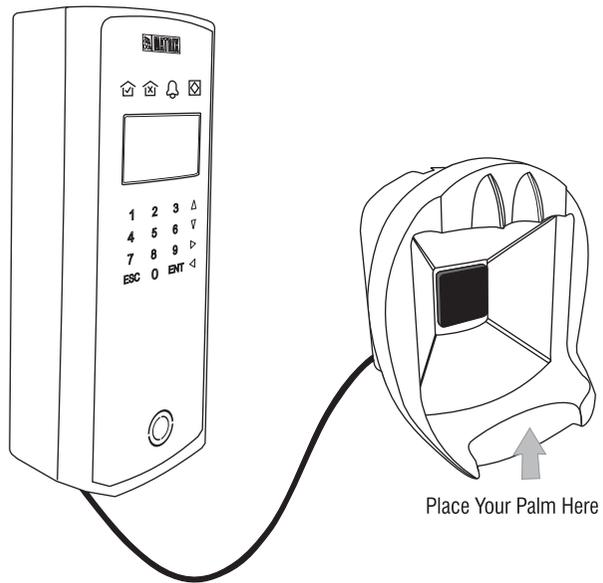

Figure 12
- Install the hand guide in a vertical or horizontal position, in the required location (figure 12).